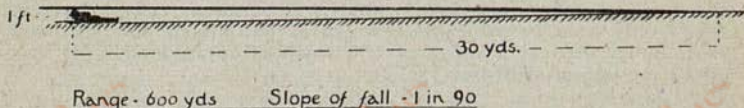

FIG. 4
- The dangerous space will decrease as the range at which firing takes place increases. In the diagram, for the purpose of comparison, a target of the same height is shown against the final part of the trajectories of bullets fired from ranges of 600 yards and 1,000 yards. It is obvious that the dangerous space will be longer with the bullet fired from 600 yards than with the one fired from 1,000 yards. This is because at the greater range more elevation is needed on the weapon in order to make the bullet reach; the trajectory consequently is a more pronounced curve and the angle of descent steeper (see Figs. 4 and 5).